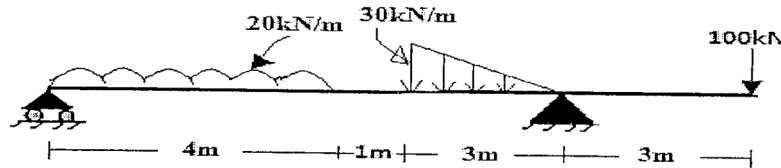

Figure: 2
5. Draw S. F. D and B. M. D for the beam shown in figure 2. [10]